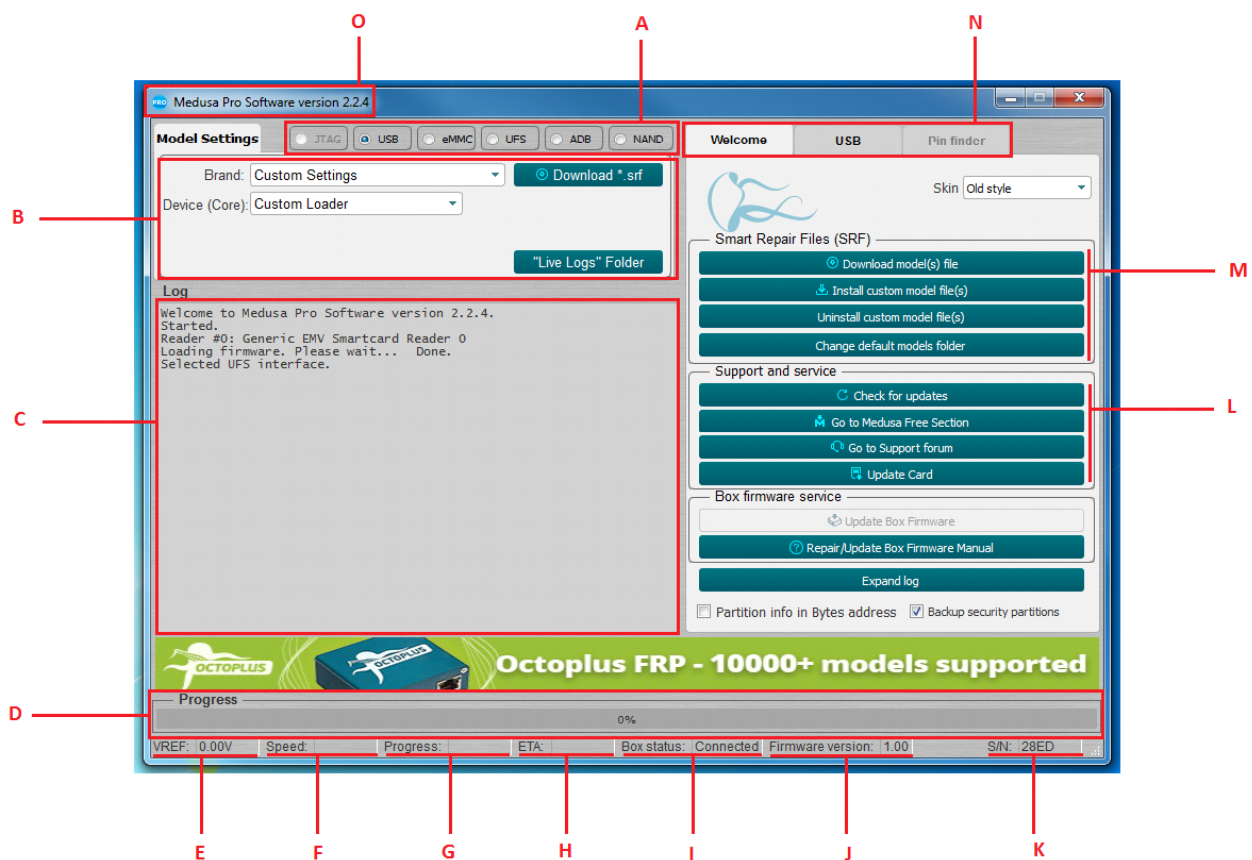

Fig. 1 Main window, "Welcome" Tab
- N. Group of tabs to work with the box. The first **"Welcome"** tab is shown in Fig.1 and is designated for SRF control, software version and box firmware control. The second tab depends on the selected interface (Fig. 1A). The third tab Pin Finder is not in use.
- It is necessary to physically connect the device to one of the interfaces Fig.1 (A);
- Configure the interface in the field shown in Fig.1 (B);
- The initialization results are displayed in the log (Fig. 1 (C)). In case of successful initialization, the log may contain certain device parameters, for example: device manufacturer, device model, serial number, media size, etc. If the device could not be initialized, information about the impossibility to initialize the device is displayed in the log;